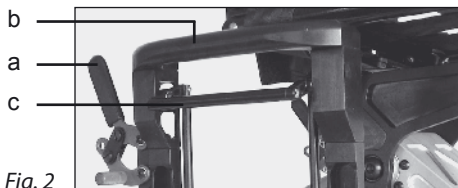

Fig. 2
- Release the brake (Fig. 2 a)
- Clasp the wings of the armrests (Fig. 2 b) in the middle with both hands. Do not bend the thumbs backward
- Pull the lever of the triggering mechanism (Fig. 2 c) upwards, (this lever is mounted at the right underneath the armrest)
- Release the lever of the triggering mechanism (Fig. 2 c), and the wheelchair stops at the desired height